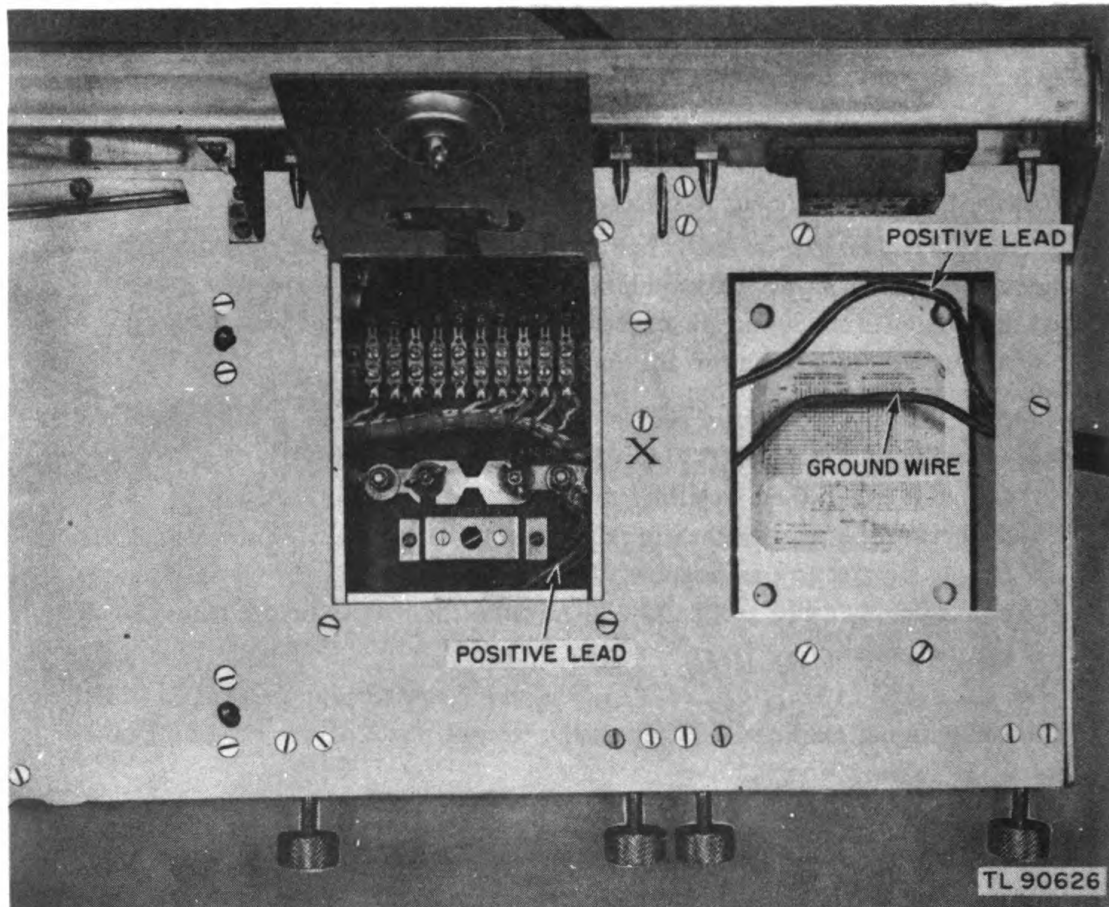

Figure 23. Transmitter base, ground connection.
(2) Take the other end of Cord CD-1151 and ground the black negative lug to any convenient point on the transmitter mounting. The screw connection marked X in figure 23 makes a good point to make the ground connection.
(3) Connect the white positive wire of Cord CD-1151 to the positive battery terminal of Radio Set SCR-508-($\&$) or SCR-608-($\&$).
replace, and tighten the nut. Make the ground connection to the screw marked X in figure 23 or any other convenient point on the chassis.